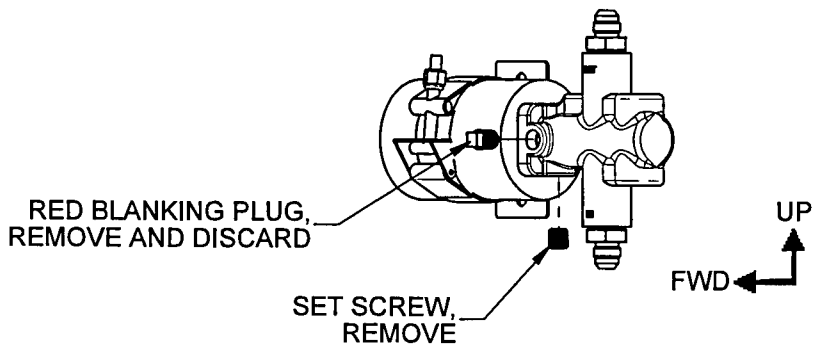

FIGURE 2: RED BLANKING PLUG & SET SCREW REMOVAL
1. Remove the red blanking plug and set screw installed in the lowest drain position from the D4022-041 Fuel Pump, reference Figure 2. Discard the red blanking plug.